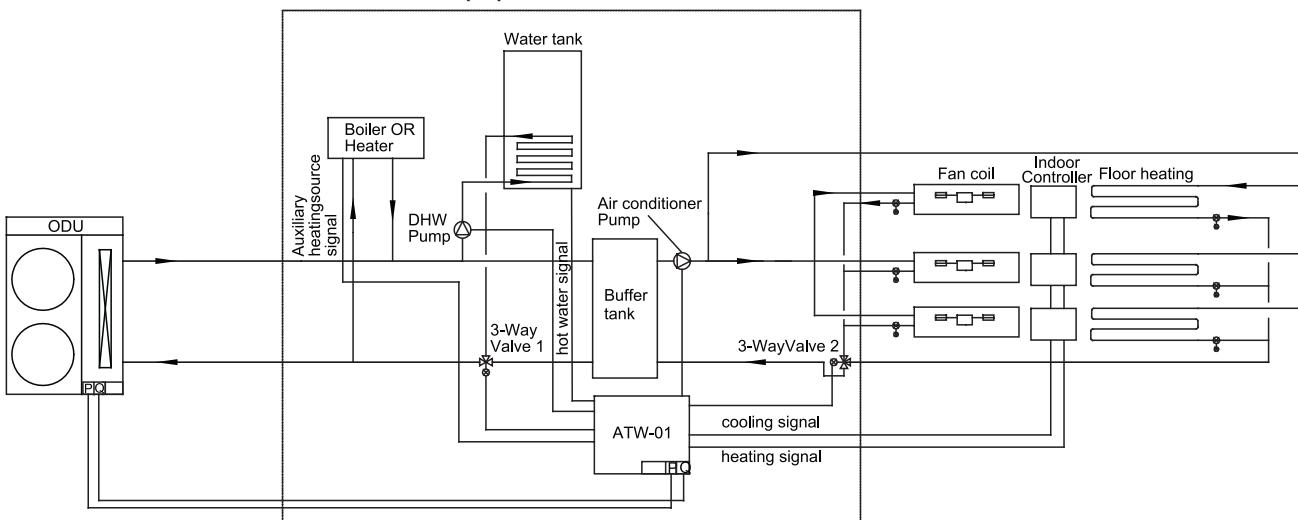

Fig.4 DHW controled by User's controller
- User sends on/off to CN22 while Outdoor PCB BM1-1 will be set to ON (Fig.4).